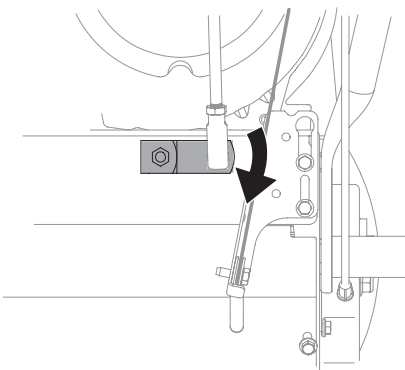

Figure 4-8
- Pivot shift bracket downward as far as it will go. See Figure 4-8.